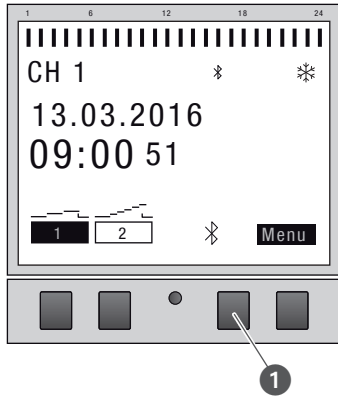

Fig. 24: Switching the Bluetooth connection on the timer on/off
1. To switch off the Bluetooth connection, press the Bluetooth button (Fig. 24/①) on the timer for approximately two seconds.